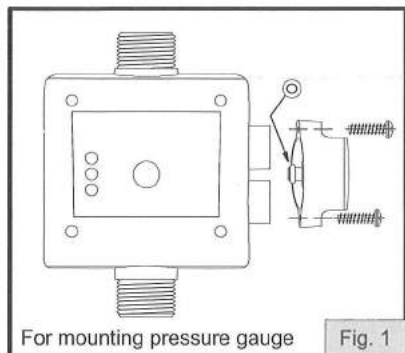

Fig. 1
Before proceeding with hydraulic connection it is essential to prime the pump correctly. The **Formula_{press}** should be installed in a vertical position, thus connecting the inlet opening (male 1") directly to the pump outlet; and the outlet (male 1") to the network. The following accessories are recommended: flexible with a disassembling link for network connection, protecting the set from possible flexion charges and vibrations, ball valve which permits the isolation of the pump from the installation a tap (A) on the same level as **Formula_{press}** (FIG. 1).
! INSTALLATION OF THE PRESSURE GAUGE (FIG.1) (OPTIONAL)